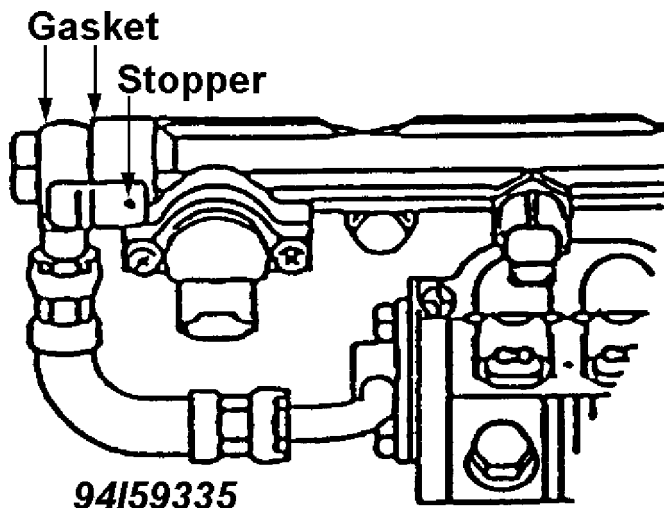

Fig. 22: Installation of Fuel Hose on Secondary Fuel Distributor
28. Install the fuel hose on the secondary fuel distributor. See Fig. 22.